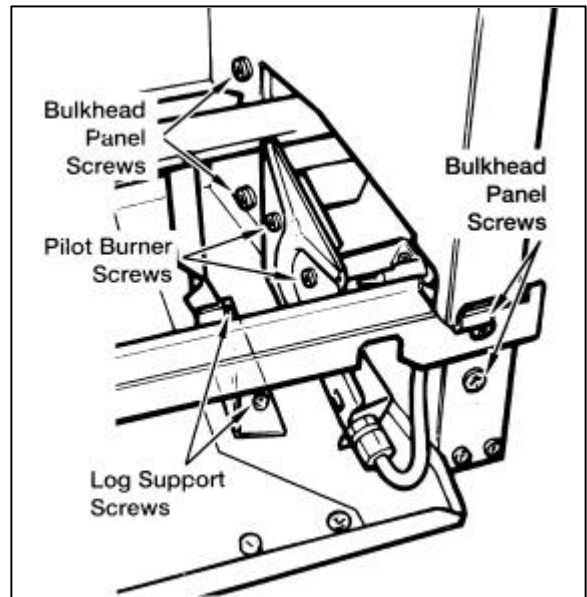

Fig. 19 Firebox Internal Fixings
- 16.7.4 To gain clear access to the pilot burner screw, detach the right hand front log support by removing two screws - see figure 19.
- 16.7.5 Remove the pilot and cross lighting burner by unscrewing the two screws fixing it to the bracket at the right side of the firebox - see figure 19.
16.13.5 Remove the two screws securing the bulkhead panel to the firebox right front flange and front cross member see figure 19.
16.13.9 Remove the three screws securing the bulkhead panel inside the firebox right side - see figure 19.